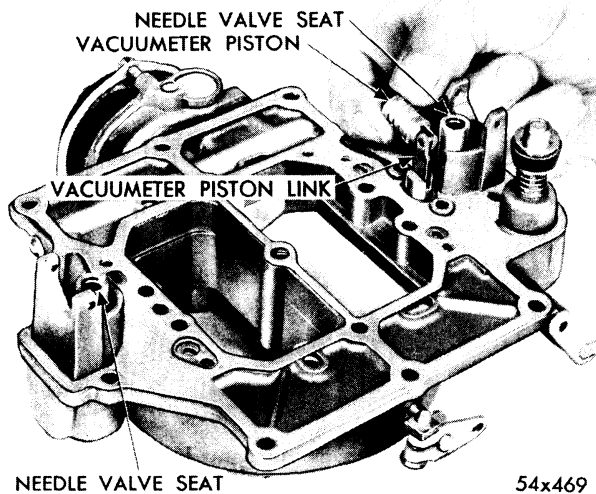

Fig. 11—Removing or Installing Vacuumeter Piston
- (4) Rotate the vacuumeter piston 90° to either side and remove, as shown in Figure 11. Remove the gasket from the bottom of the air horn and discard.